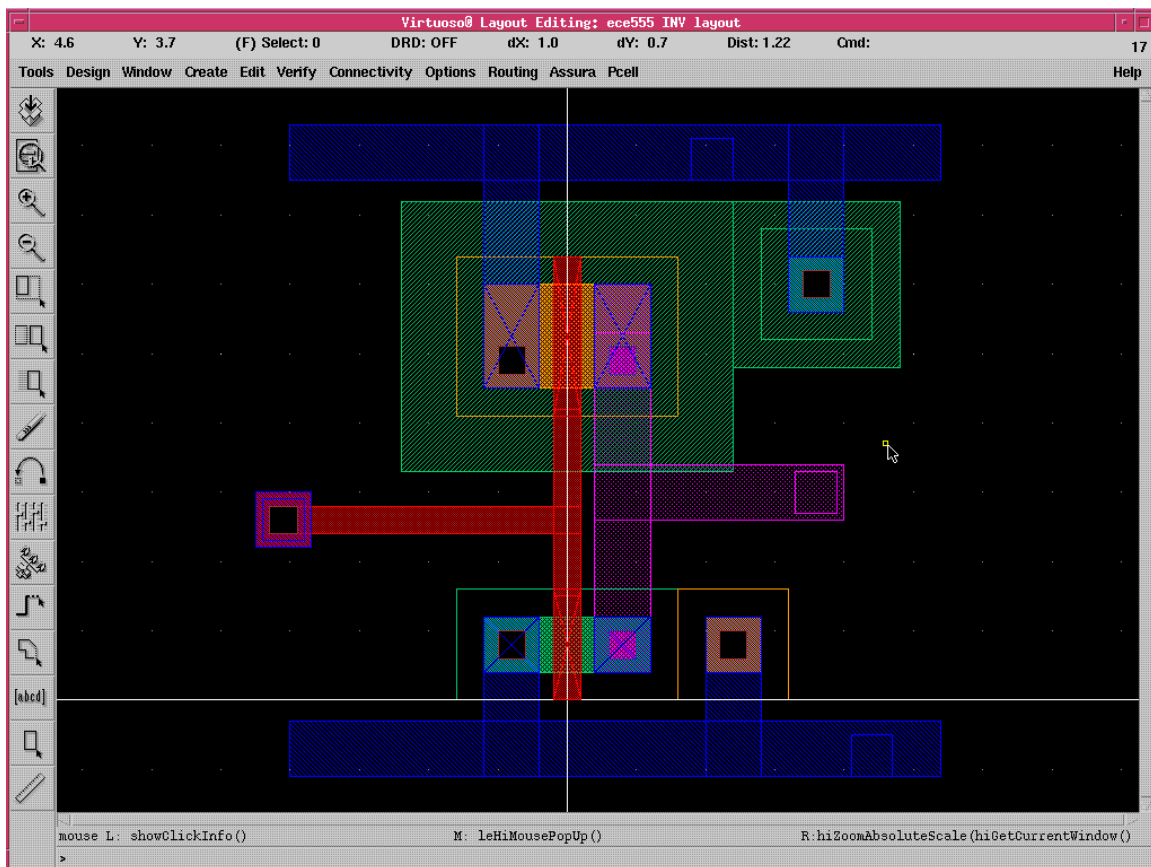

Fig. 16. Completed inverter layout
- Place “vdd!” pin in the metal power bar on the pmos and “gnd!” pin in the metal power bar on the nmos. And, change I/O type in *Create Symbolic Pin* window to input for “in” and output for “out”. Then, place “out” in the metal region connecting drain of devices and “in” in the m1\_poly via. The completed layout of inverter should look like Fig. 16.